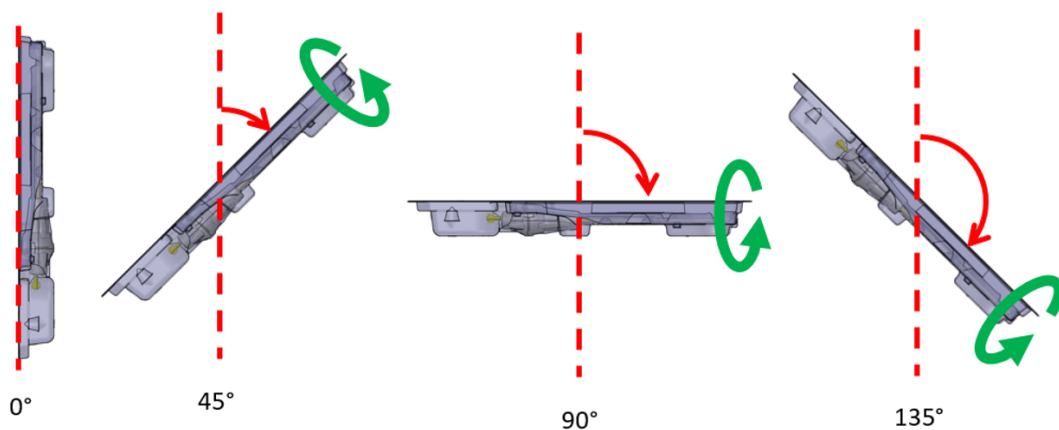

Figure 8: Recommended procedure for purging air from ultrasound applicator
- b. While the purging operation is on, hold the UA in its package—be careful not to touch the UA handle to keep the UA sterile. Tip the package upwards in the 0° position, then tilt to approximately 45°, then 90°, and 135°. At each angle, slowly rotate the package approximately 360° (Figure 8).